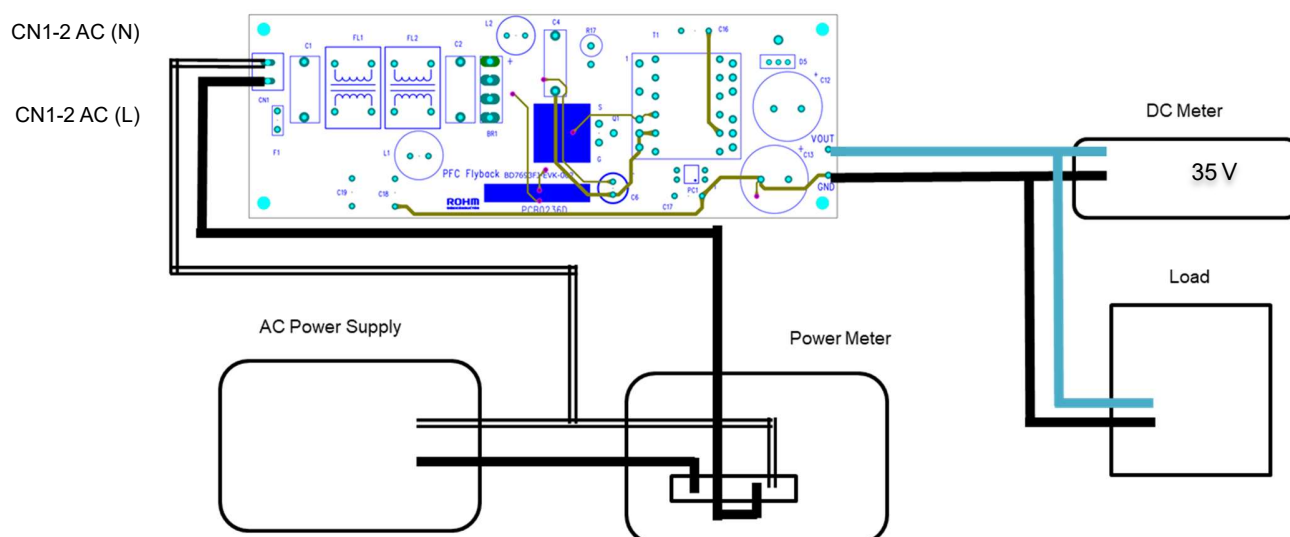

Figure 3. Diagram of How to Connect
- (1) AC power supply presetting range 90 Vac to 264 Vac, Output switch is OFF.
- (2) Electronic load setting under 1.2 A, Load switch is OFF.
- (3) The reference board connects to measuring equipments and power supplies as in Figure.3.
- (4) AC power supply switch is ON.
- (5) Check that output voltage is 35 V.
- (6) Electronic load switch is ON.